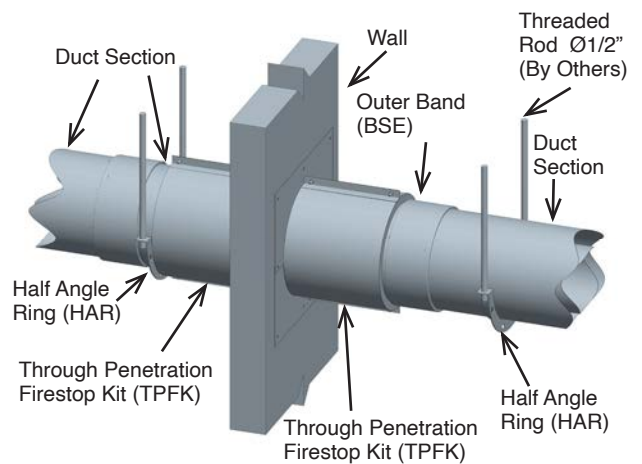
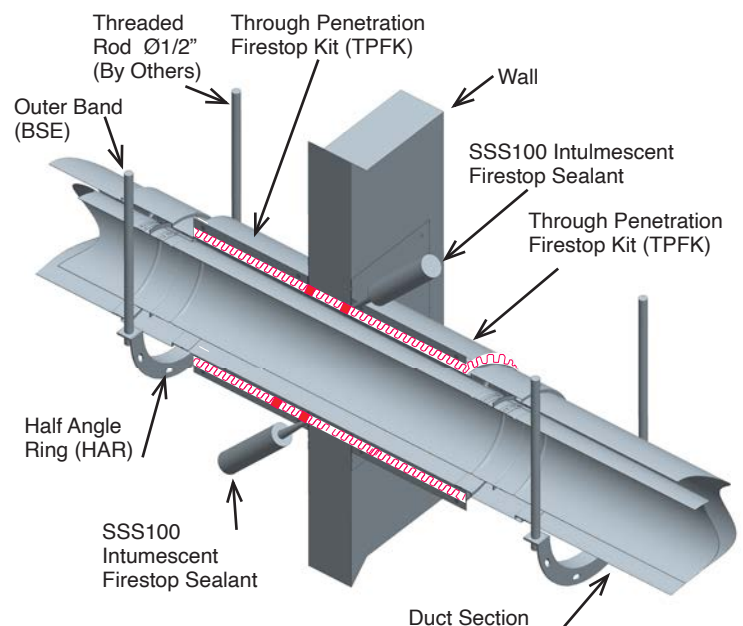

Figure 108: Supports for duct through fire-rated wall (CIX3Z only)
Figure 111: TPFK Assembled Through a fire-rated Wall (CIX3Z only)
Ducts that penetrate a fire-resistance wall (upto 2hr fire-rated) have to be supported on both side of the wall. It can either be supported by bracing a HAR, a AP or APL. See Figure 108.
- For Wall Penetration, use two TPFK's. See Figure 111 and Figure 108.
NOTE: The cover plates, wrap insulation and split closure bands are installed on the top surface of a floor penetration and on both surfaces of a wall penetration. See Figure 111 for the penetration through a wall.